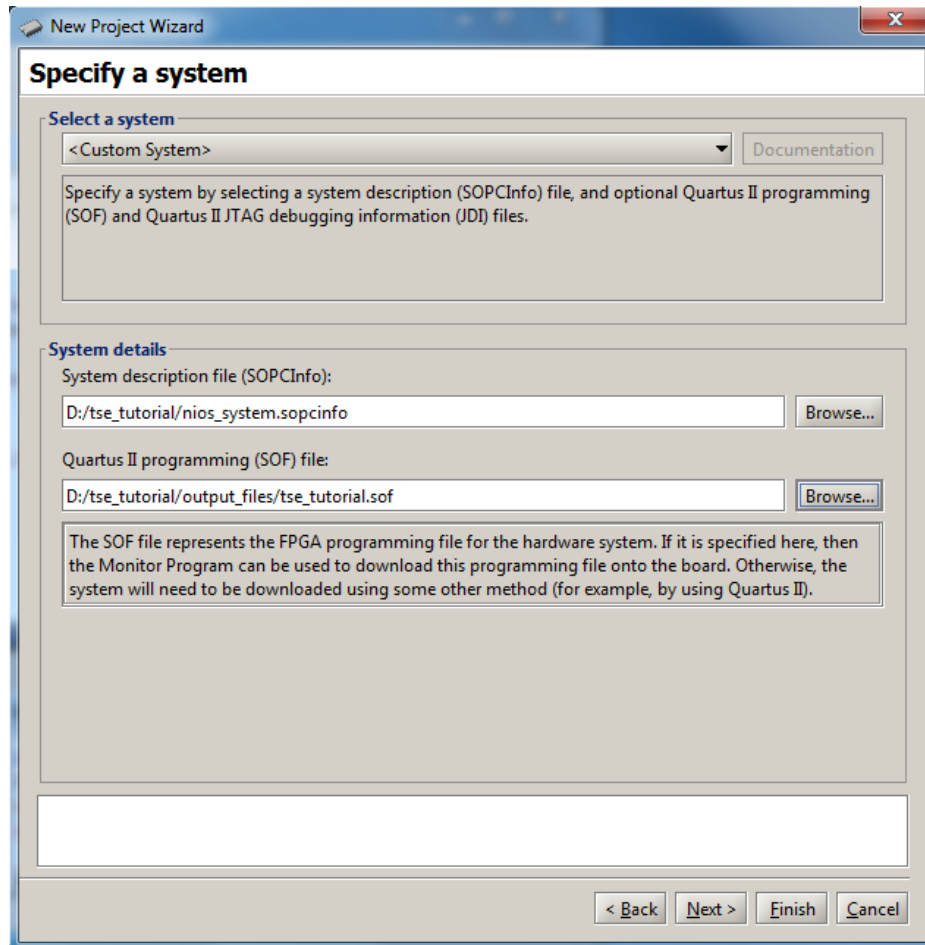

Figure 23. Specifying a system.
5. In the window in Figure 23, select **Custom System** as the system type and browse to find the appropriate *.sopcinfo* and *.sof* files. Click **Next**.